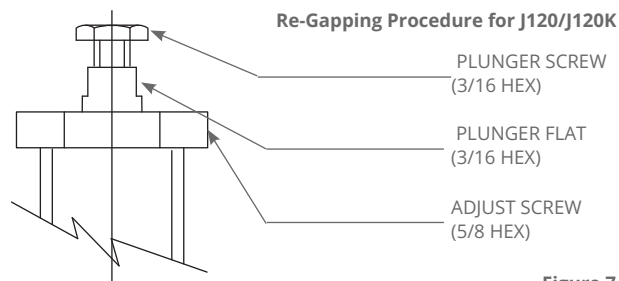

Figure 7
- 3/16" Open End Wrench (2)
**SOME MODELS HAVE A TWO-PIECE ADJUSTABLE PLUNGER (SEE FIGURE 7). THIS FEATURE IS CHARACTERIZED BY A 3/16" HEX SCREW INSTALLED IN THE 1/4" HEX PLUNGER. FOLLOW THE SET-POINT PROCEDURE BELOW TO AVOID DISTURBING THE GAPPING. GAPPING IS FACTORY-SET AND CRITICAL TO THE FUNCTION OF THE SWITCH. THE GAPPING PROCEDURE SHOULD ONLY BE PERFORMED IF THE PLUNGER WAS ACCIDENTALLY ADJUSTED.**
- 2 Turn 5/8" hex adjustment screw clockwise to approximately midrange. This puts a load on the sensor and exposes the plunger flats. (See Figure 7).